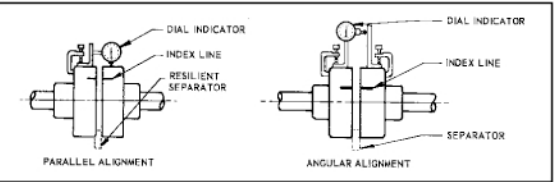

Figure 3 TESTING ALIGNMENT, DIAL INDICATOR
- An alternate test for parallel and angular alignment may be made with a dial indicator mounted as shown in Figure 3. Proceed as follows: